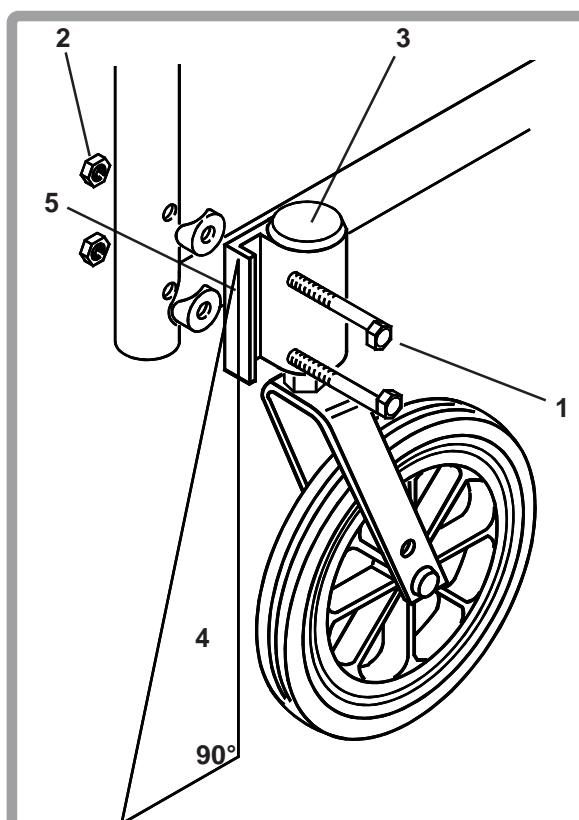

Fig. 27
For optimum performance, the castor housing (Fig. 27) should always be at 90° to the floor, (perpendicular to the ground). This adjustment is made with an eccentric (offset) attachment bolt mechanism (1). To change the angle, place the chair on a flat surface (such as a table.) Remove the bolt nuts (2) using a 10mm A/F spanner from the rear side of the castor plate (3). You will note that the castor plate is slotted on the side for adjustment. Place a right angled object (4) against the flat surface and the front surface of the castor bearing housing (5). Align the castor stem rotational axis perpendicular to the flat surface. Rotate the bolts independently until they fall into position. When the alignment is satisfactory, re-tighten the two retaining bolts. Repeat the process for the other castor.